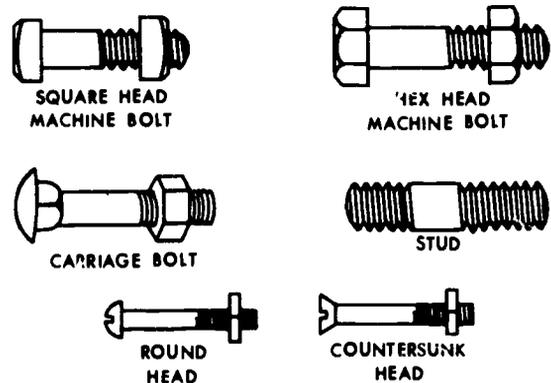

Figure 121. Bolts.
*a. Bolts.* A bolt is an externally threaded fastener whose threaded and unthreaded portions are the same nominal diameter. The unthreaded portion is known as the grip. A bolt head can be square, hexagonal, domed, or flat circular countersunk shaped, as shown in figure 121. Bolts must be assembled with a nut in order to serve as a fastener. A stud can be considered a type of bolt when it is installed in the parent metal.